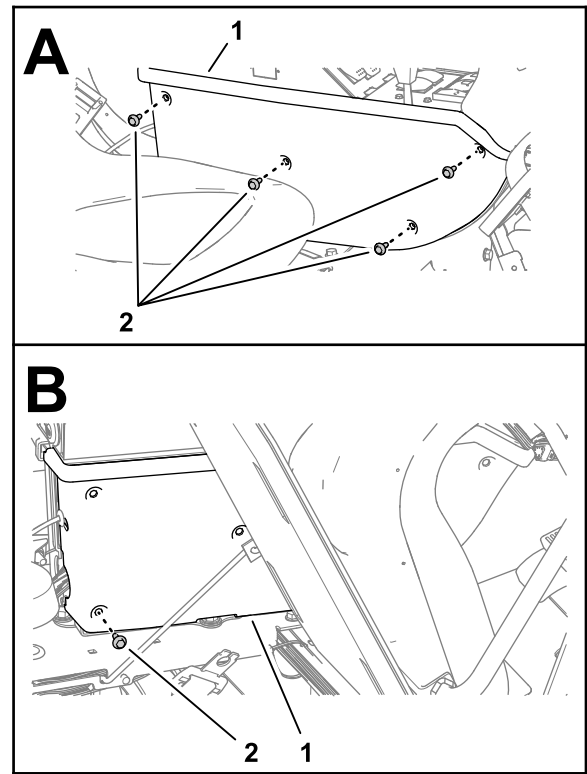

Figure 110
3. Assemble the side panel to the console frame (Figure 110) with 4 flange-head cap screws (1/4 x 3/4 inch).
4. Tilt the seat forward and install the lower rear flange-head cap screw (Figure 110).